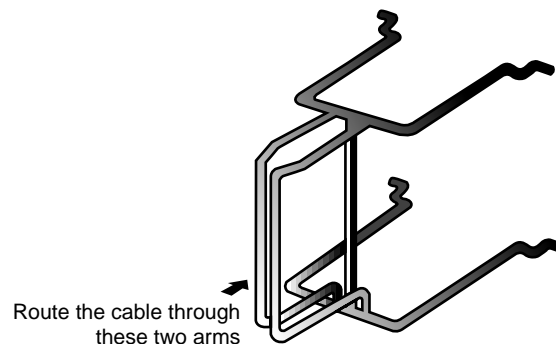

Figure 1-3 Routing the Cable Through the Cable Strain-Relief Bracket
- 2 Route the cable through the cable strain-relief bracket as shown in Figure 1-3.